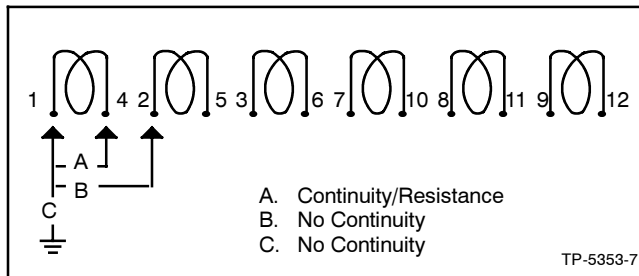

Figure 3-14 Stator Winding Test
- Open windings: With ohmmeter, check **each pair** of leads for low resistance readings (continuity). High resistance across A or low resistance (continuity) across B and ground indicates a faulty stator; replace stator. See Figure 3-14.